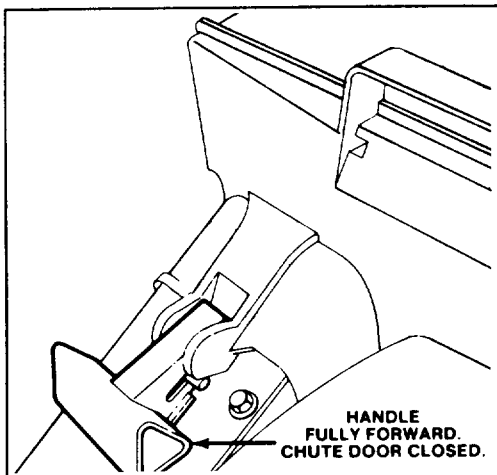

Figure 5
MULCH—In summer when grass grows slower and is drier, mulch by closing chute door (Fig. 5). For convenience and protection, keep grass bag on mower.
2. Assure chute door handle is fully forward and pin is engaged in catch (Fig. 5).